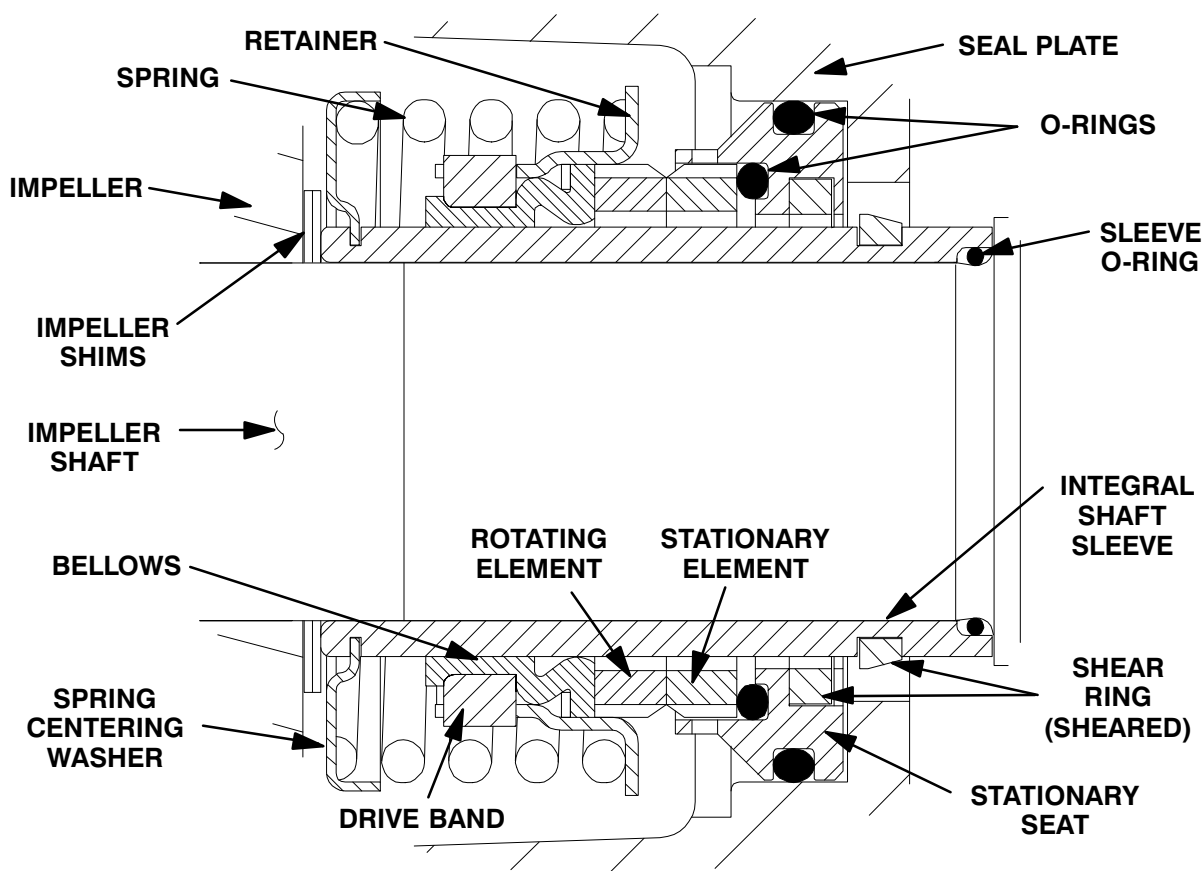

Figure 8. 46513-151 Cartridge Seal Assembly
To ease installation of the seal, lubricate the shaft sleeve O-ring (28) and the external stationary seat O-ring with a very **small** amount of light lubricating oil. See Figure 8 for seal part identification.